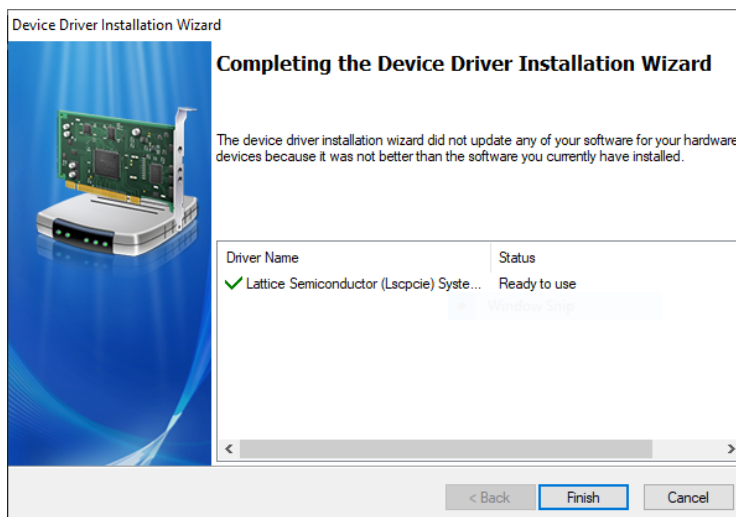

Figure 5.35. Device Driver Installation Completed
- If the driver is installed successfully, a message is displayed as shown in Figure 5.35. Click **Finish**.